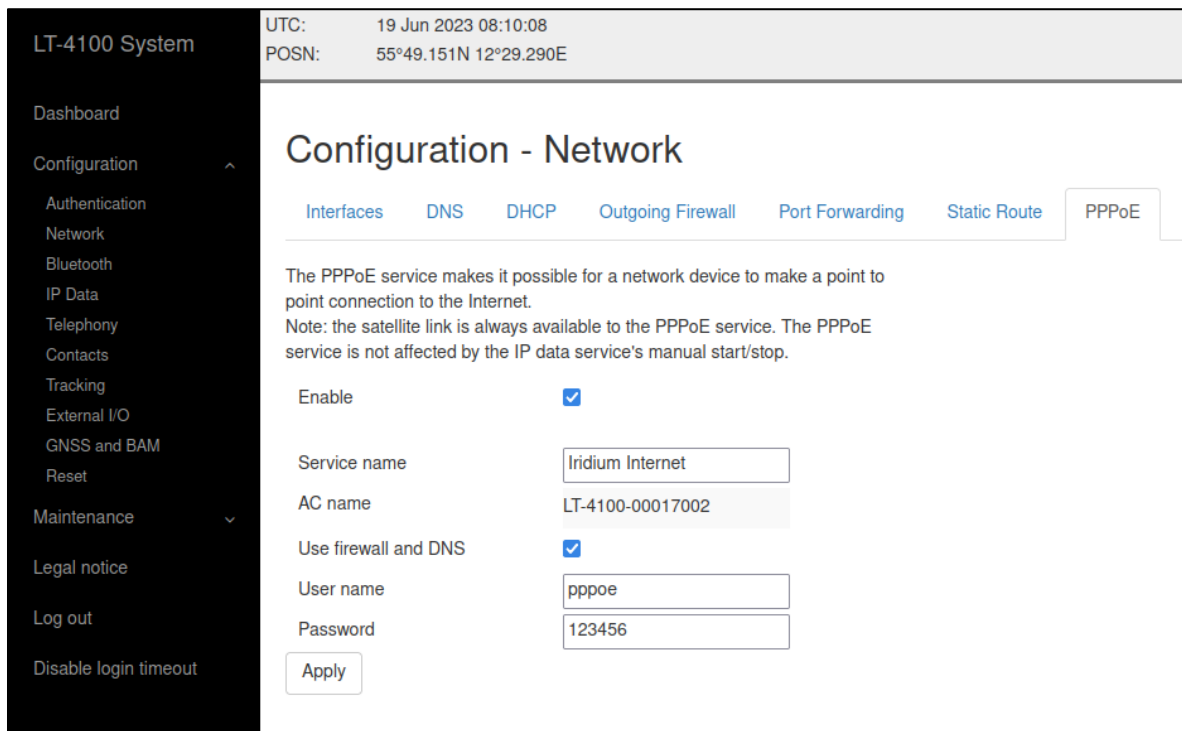

Figure 124: Web server – Network (PPPoE)
The PPPoE connection must be configured by setting up the Service name, Access Concentrator (AC) name, User name and Password. See Figure 124 for configuration.